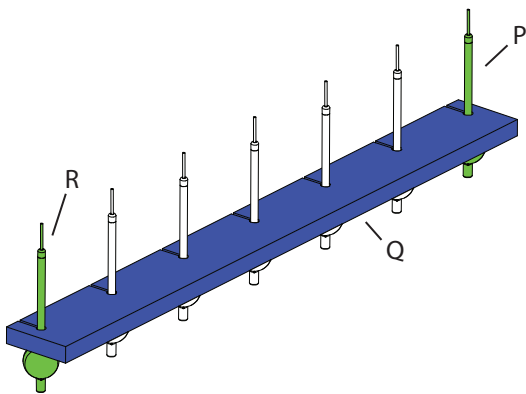

Fig. 1a
10. Adjust one of the corner Power Feed Drops (P) to the precise height desired.
11. Fig. 1a: Rest the Leveling Block (Q) on that drop as well as the another corner (R) and adjust the height of Drop R until Block is level.